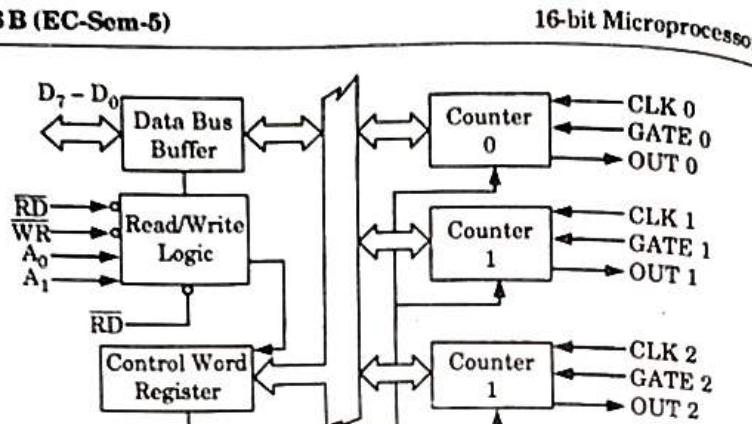

Fig. 3.18.1. Internal block diagram of 8253.
1. The internal block diagram of 8253 is shown in Fig. 3.18.1. The programmable timer device 8253 contains three independent 16-bit counters. It is thus possible to generate three independent delays or three independent counters simultaneously.